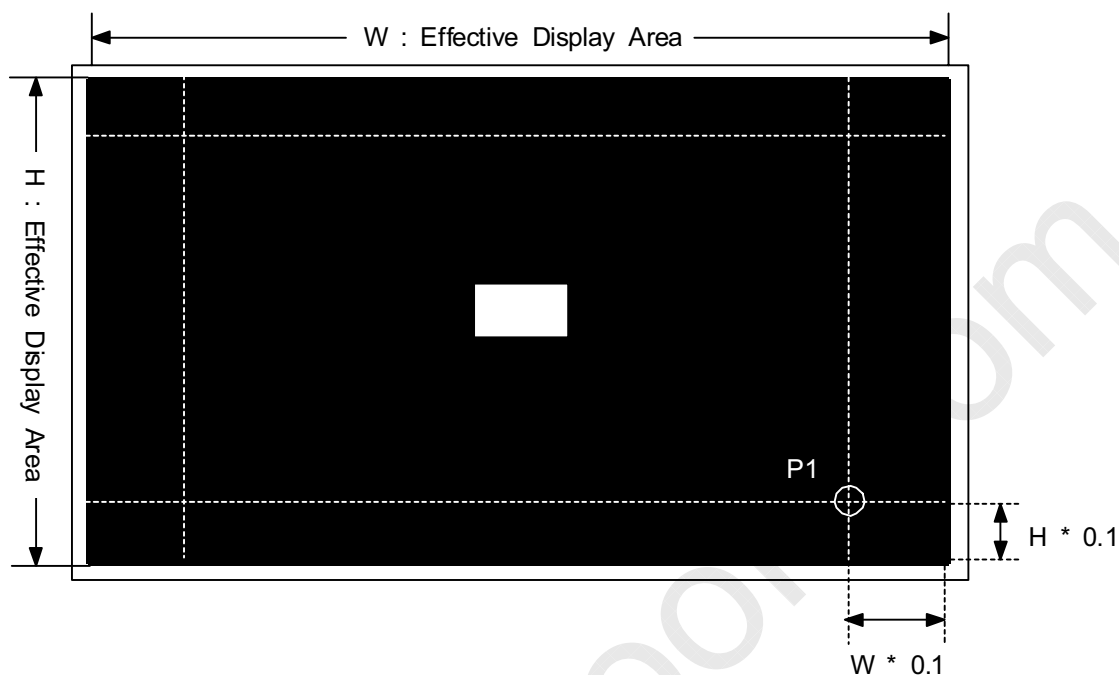

Figure-4. Measurement point
1. It is recommended to measure just one point, P1 of Figure.-4 on display pattern of Figure.-3.
(5) Ambient Light : Dark Room (<2 lux)